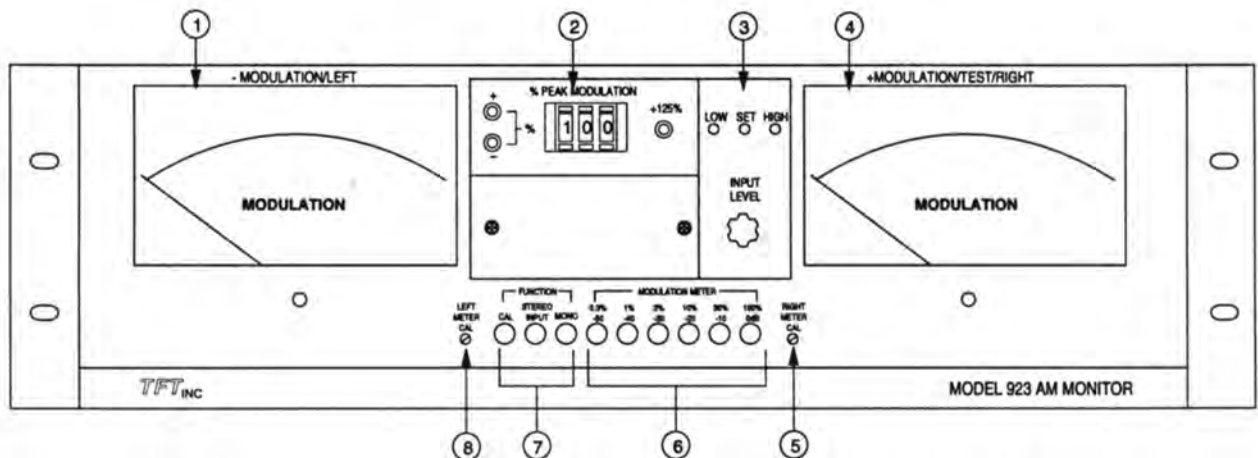

Figure 3.3-1. Front Panel Controls and Indicators
- c. Turn the front panel level INPUT LEVEL control (Figure 3.3-1, Item 3) fully counterclockwise.
Front and rear panel controls, indicators and connectors are shown in Figures 3.3-1 and -2. The functions of these items are listed in Tables 3.3-1 and -2.
The + and - MODULATION Meters give a quasi-peak indication of positive and negative peak modulations, respectively. For maximum accuracy, the Modulation meters calibration should be checked regularly and adjusted if necessary. The meters are calibrated by depressing the CAL FUNCTION and the MODULATION METER 100% pushbuttons. If the MODULATION meter reading is not exactly 100%, adjust the LEFT METER CAL (Figure 3.3-1, Item 8) until it is. If the MODULATION meter reading is not exactly 125%, adjust the RIGHT METER CAL.